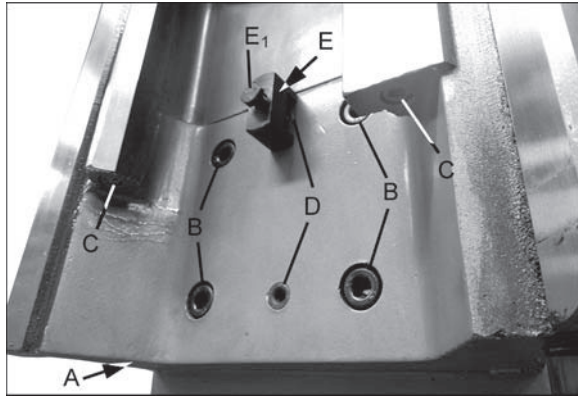

Figure 40 – Gap section
1. To remove the gap section (A, Figure 40), remove four socket head bolts (B) and two socket bolts at the ends of the rails (C).
2. Remove the two tapered alignment pins (D) by placing the provided gap bridge pin driver (E) over them and threading the screw (E1) down into them, until the pins are loosened enough to be pulled out.